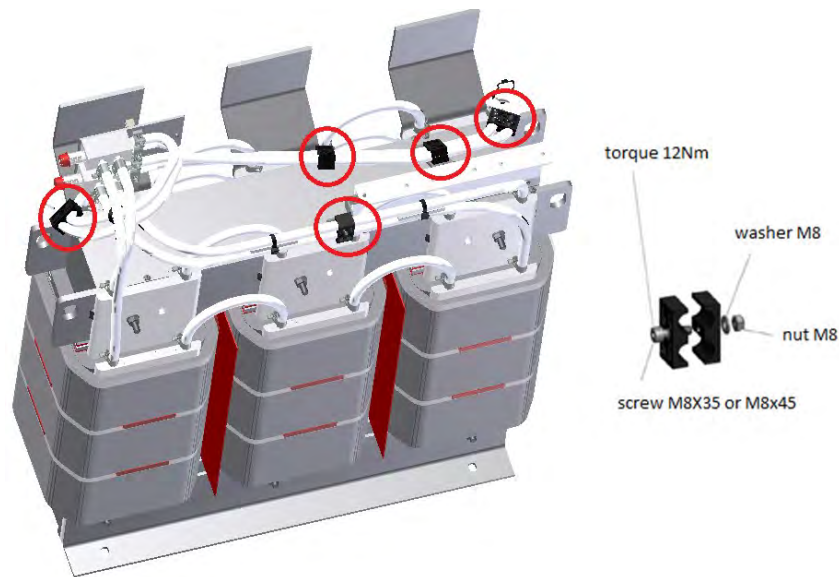

Figure 3. Hose support clamp location, operation and tightening torque
The hose runs on the top of the reactor are to be supported using a system of hose support clamps and cable tie spacers. There are 5 support clamps (item 1-900-001051) supplied with the kit for mounting on the hoses themselves as shown in Figure 3.